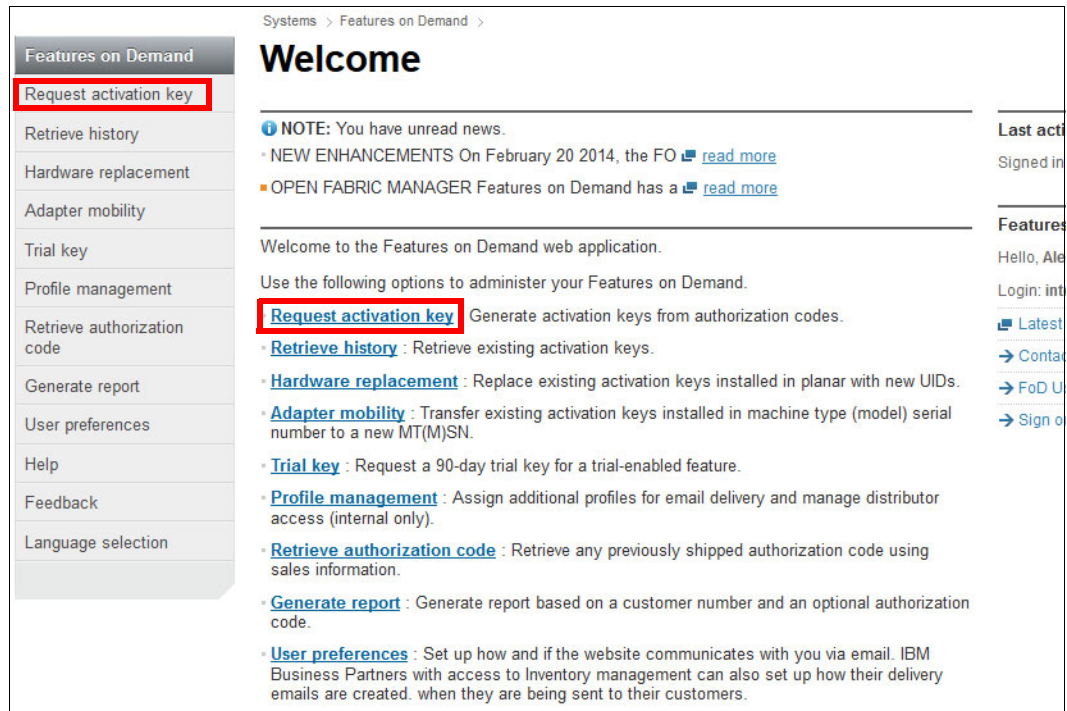

Figure 2-39 Request activation key option
4. In the Welcome page, select **Request activation key** from the center or left of the page, as shown in Figure 2-39.